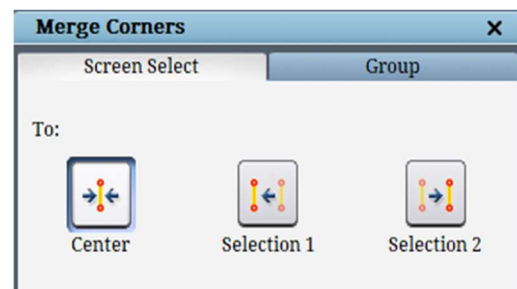

Figure 4.85: Screen select tab dialog box
**Screen select** tab provides you three options to position the selected corners after merge, as shown in Figure 4.85. First is **To Centre** option that will position the merged corners to the centre of the input corners. Second is **To Selection 1** option that will position the merged corners to the first selected corners' position. Similarly **To Selection 2** will position the merged corners to the secondly selected corners'.